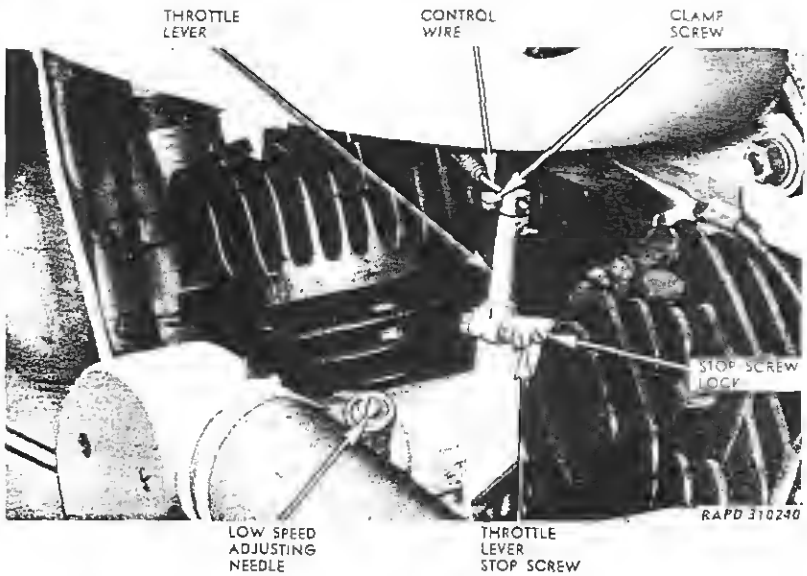
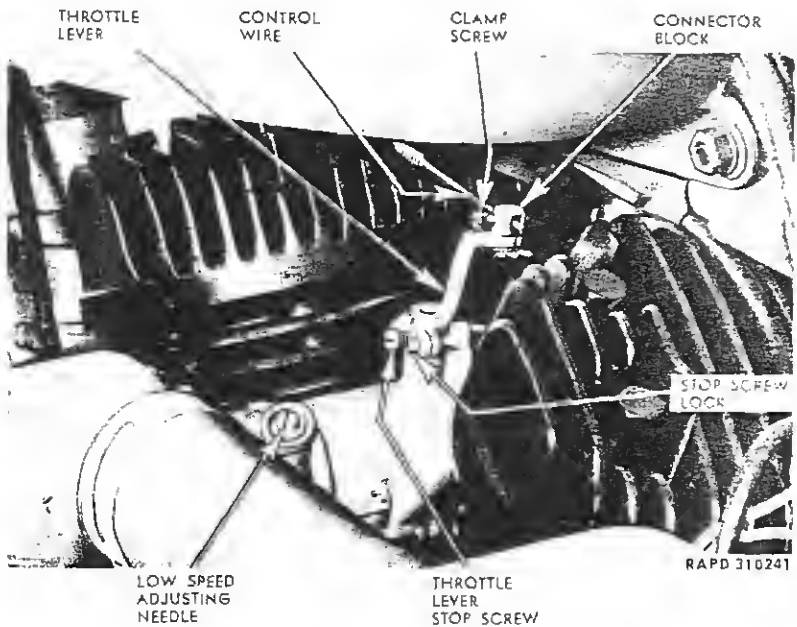

Figure 43—Throttle In Fully Closed Position
Figure 44—Throttle In Fully Open Position
68. CARBURETOR ADJUSTMENT (fig. 43).
(13) See that battery is not entirely discharged by turning on lights (tactical situation permitting) and observing brilliancy.
c. **Low Speed Adjusting Needle** (figs. 43 and 44). Adjustment of this needle valve controls only idling and low speed (up to approximately 30 mph) fuel mixture. Turn needle valve down (to right) to make mixture leaner. Back out (to left) needle valve to make mixture richer. Needle valve is held in any desired position by a spring-and-ball plunger which engages notches in the needle adjusting screw.
(1) Turn the low speed needle valve all the way down (to right).
(2) Back needle valve out (to left) about three full turns. With needle valve in this position, engine will start, but mixture will probably be too rich.
(3) Start engine as follows: After choke lever has been moved to normal open running position and engine is normally hot, correct adjustment of needle valve by turning needle valve down (to right) one notch at a time until mixture becomes so lean that engine misses, and is inclined to stop; then back out (to left) needle valve 5 to 10 notches, or until engine fires regularly with spark advanced and throttle closed (or as nearly closed as it can be set and still have engine running at idling speed).
(4) Adjust throttle lever stop screw (fig. 43) as necessary to make engine idle at proper speed with throttle in fully closed position. Turning stop screw to the right makes engine idle faster. Turning stop screw to the left makes engine idle slower. Do not idle engine at the slowest possible speed, because an extremely slow idling adjustment causes hard engine starting. Changing idling speed with throttle stop screw is likely to change the low speed fuel mixture to some extent; therefore, it will be necessary to again check and correct the low speed needle valve adjustment (step (3) above).
(5) Engine starting and all-round carburetion will be improved with low speed fuel adjustment slightly rich, rather than extremely lean.
MOTORCYCLE, SOLO (HARLEY-DAVIDSON MODEL WLA)**69. THROTTLE CONTROL WIRE ADJUSTMENT (figs. 43 and 44).**
b. **Adjust Fully Closed Throttle** (fig. 43). See that there is about 1 inch distance between end of control wire housing and throttle lever when in fully closed position, so that housing end does not interfere with forward movement of throttle lever. If adjustment of control wire housing is necessary, refer to paragraph 101. Proceed with closed throttle adjustment.
(1) Loosen control wire clamp screw in connector block.
(2) Turn right handle bar grip outward as far as it will go; then turn it inward slightly. Holding throttle grip in this position, move throttle lever forward against its stop (closed position) and secure control wire in connector block with clamp screw. Check closing of throttle after tightening control wire set screw. If necessary, reset the control wire in the connector block until throttle is closed with full outward grip movement.
c. **Adjust Fully Open Throttle** (fig. 44). Follow instructions under step b above, then:
(1) Turn right handle bar grip inward as far as it will go and see that throttle lever is against its stop in fully open position. If throttle does not open fully when grip is turned inward, reset the control wire in the connector block to correct the adjustment.